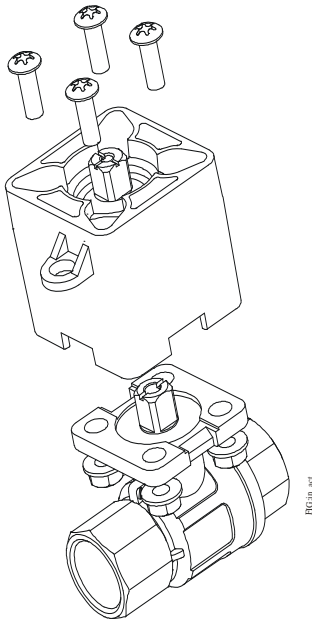

Figure 18: Installing the Barrier
3. Mount the thermal barrier onto the valve using the four included M5x16 mm machine screws and four M5 flange nuts. Tighten the screws to a recommended torque of 21 to 25 lb-in. (2.4 to 2.8 N-m).(Figure 18).